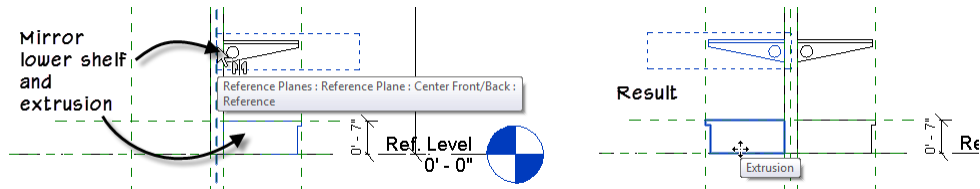

Figure 31
- On the Modify | Multi-Select tab, click the **Mirror - Pick Axis** tool (or type MM). Pick the Center Front/Back reference plane as the axis of reflection (see Figure 31).